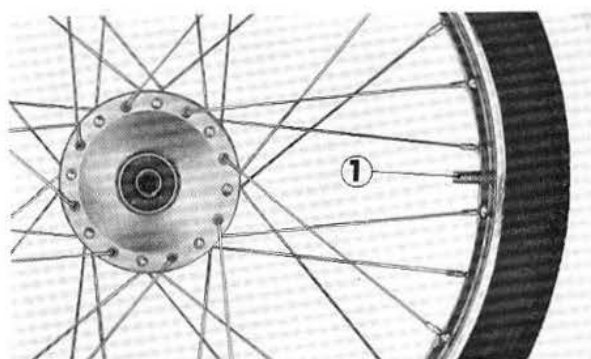

Fig. 4-7 ① Valve stem
- b. The valve stem should be pointed toward the axle or else air will leak from the base of the stem. (Fig. 4-7)